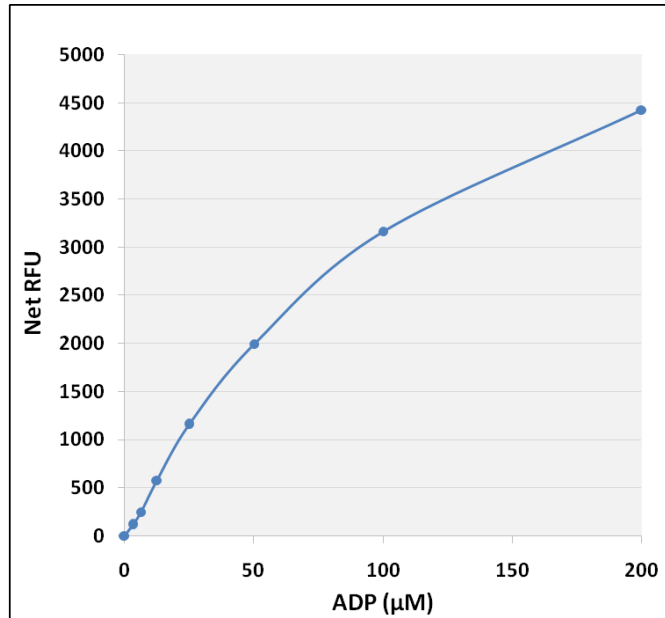

Figure 2: ADP Standard Curve.
3. Graph the standard curve (see Figure 2).